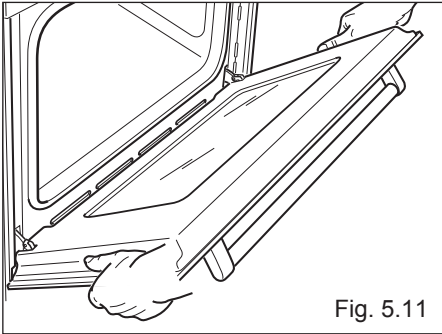
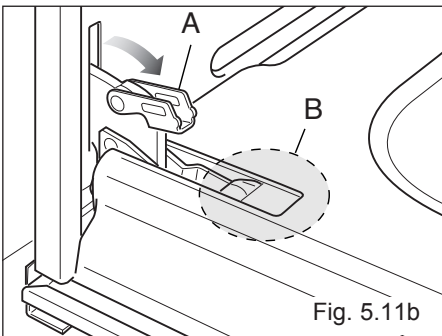

Fig. 5.11
Fig. 5.11b
- Hold the door as shown in fig. 5.11.
- Gently close the door (fig. 5.11) until left and right hinge levers “A” are hooked to part “B” of the door (fig. 5.11b)
- Hold the door firmly (fig. 5.11).